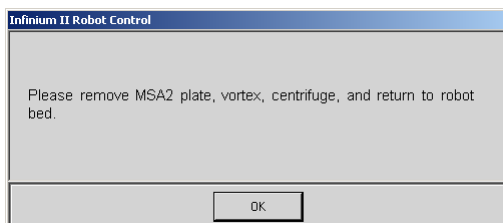

Figure 93 Vortex & Centrifuge Prompt
8. After the robot adds the 0.1N NaOH to the DNA in the MSA2 plate, follow the instructions at the prompt (Figure 93).